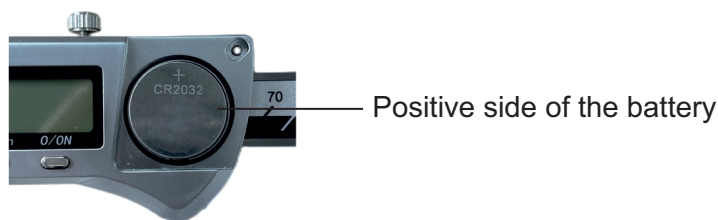

Fig. 2
- » Insert a CR2032 battery with the positive side (+) facing outward (Fig. 2).